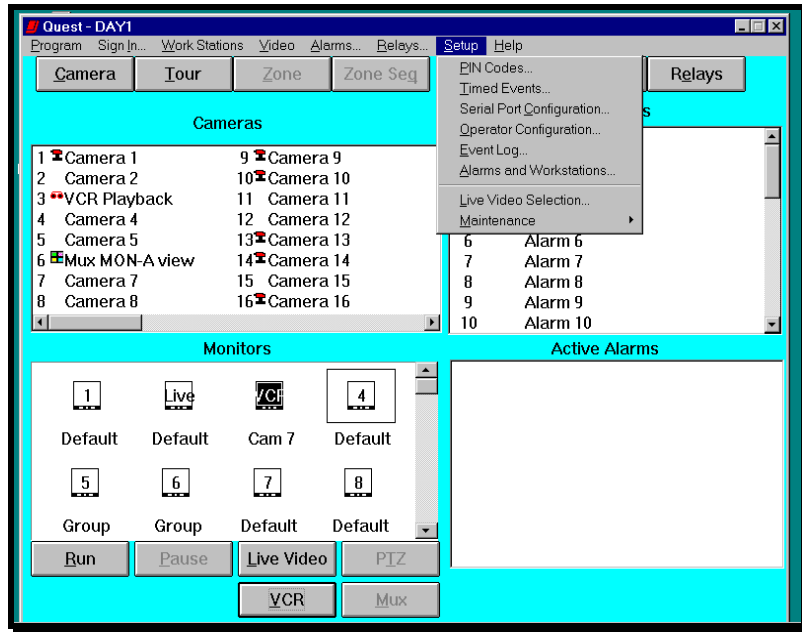

Figure 2-24. Setup Selection Menu
1. Click on **Setup** from the menu bar to display the Setup menu (Figure 2-24).